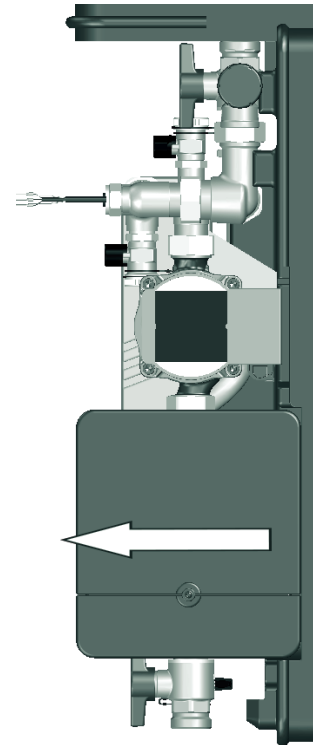

Fig. 29: Removal of the controller from the lower shell
- 2 Carefully pull the controller off the lower shell as shown in Fig. 29 on page 44.